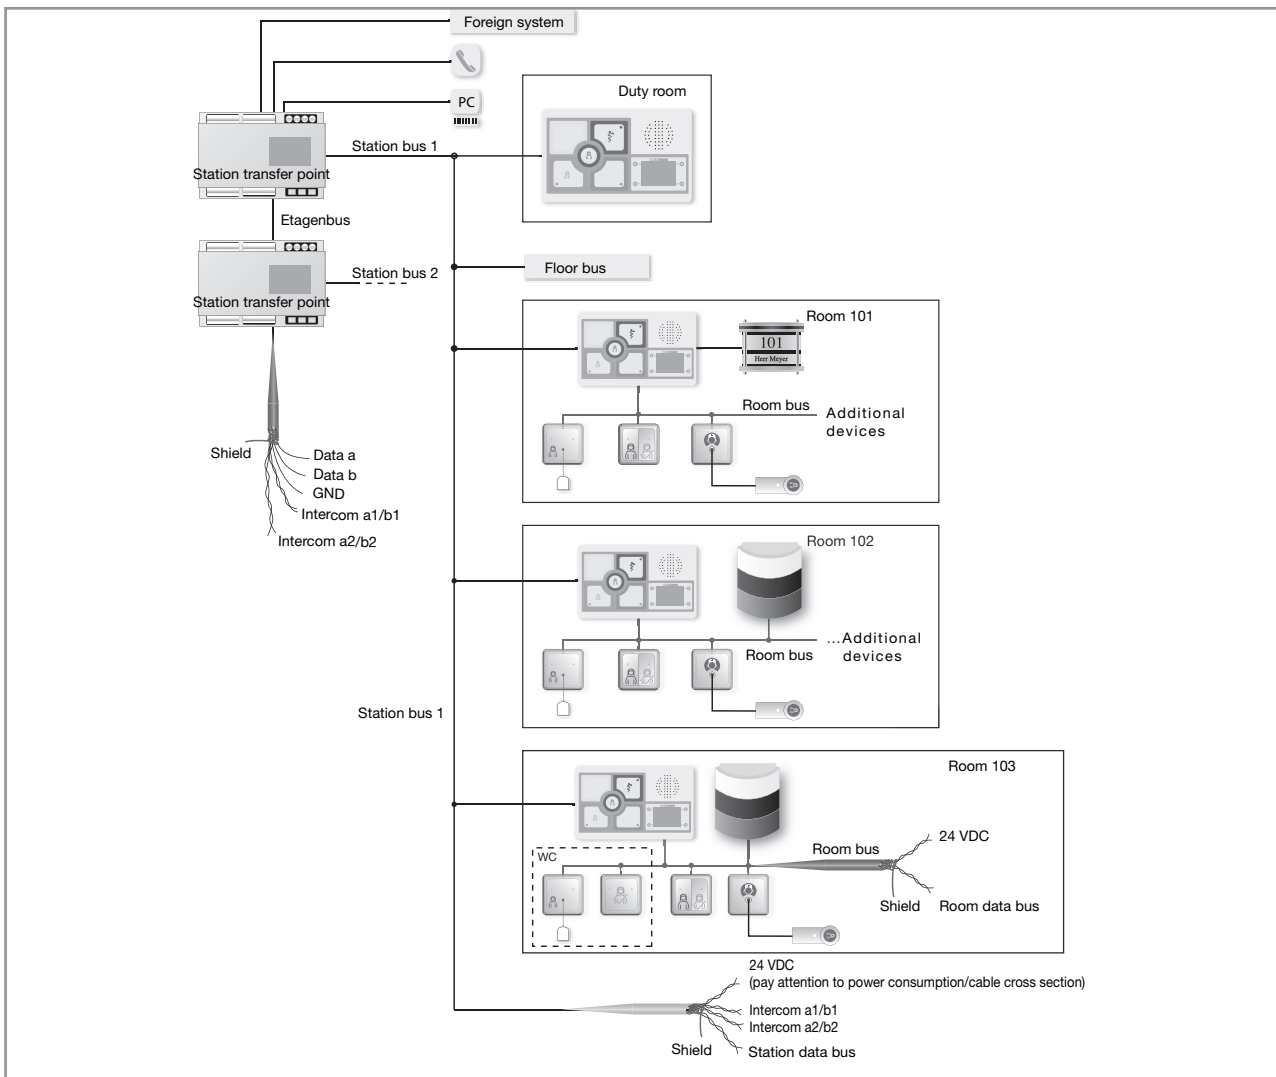

Figure 8, Cabling with intercom features
As can be seen in figure 8, additional conductors are required in the station bus and also in floor bus 4 in order to implement this. The data cables must not exceed a length of **500 m**. When using a room-wise intercom, an **additional** cable (4-core) must be used for connecting the speech channels. A separate cable of type: JY (ST) Y 2x2x0.8 must be used in order to reduce back-coupling effects.